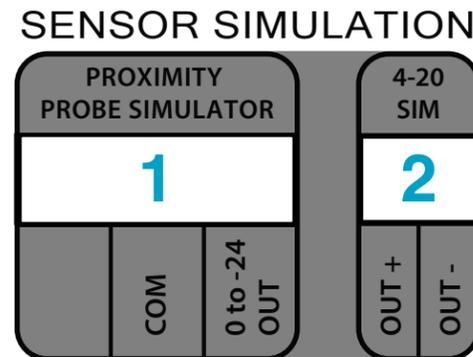

Figure 23
- b. If simulating a 4–20 mA or proximity probe (Figure 23):